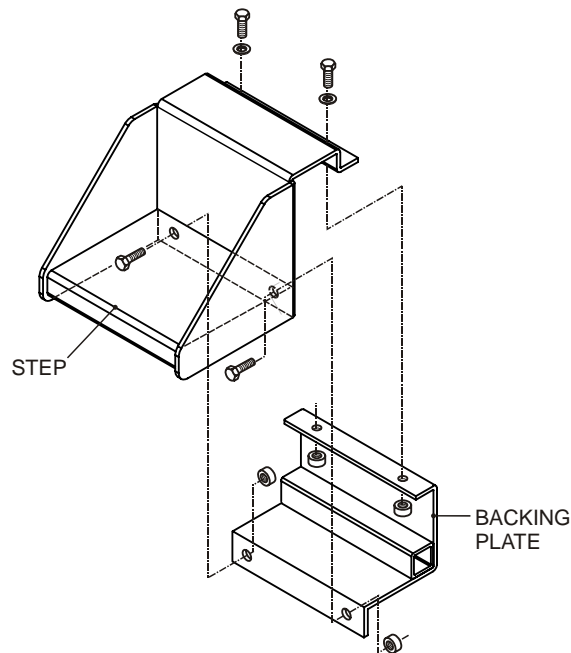

Figure 12 Rear Access Step
32. Remove access step (see Figure 12):